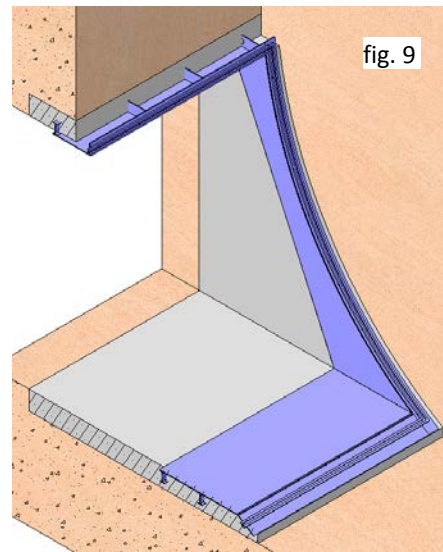

fig. 9
- Finish the mouth assembly process by carrying out the second concreting. This operation consists of filling in the gaps between the duct and the mouth, ensuring there is no protrusion in the duct (fig. 9).